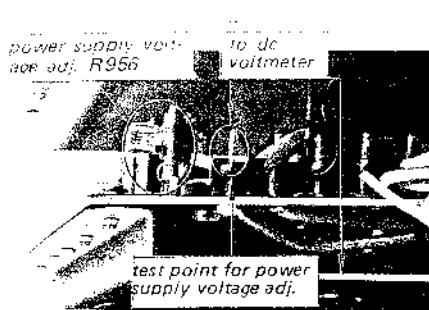

Fig. 3-1 Dc voltmeter connection and parts location
2. Connect the dc voltmeter to the test point as shown in Fig. 3-1.
3. Adjust semifixed resistor R956 (see Fig. 3-1) to obtain a 10V reading on the meter.